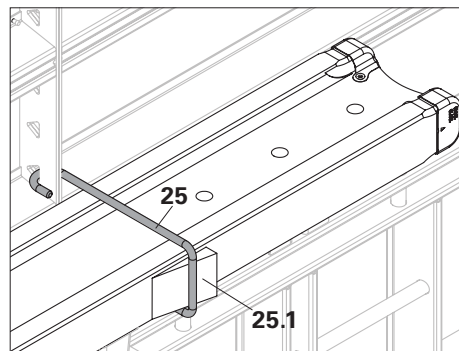

Fig. A4.13a
1. Insert the Holder Hook HSA (25) into the triangular slots of the panel strut.
2. Position the formwork girders and insert the timber wedge (25.1). (Fig. A4.13a)